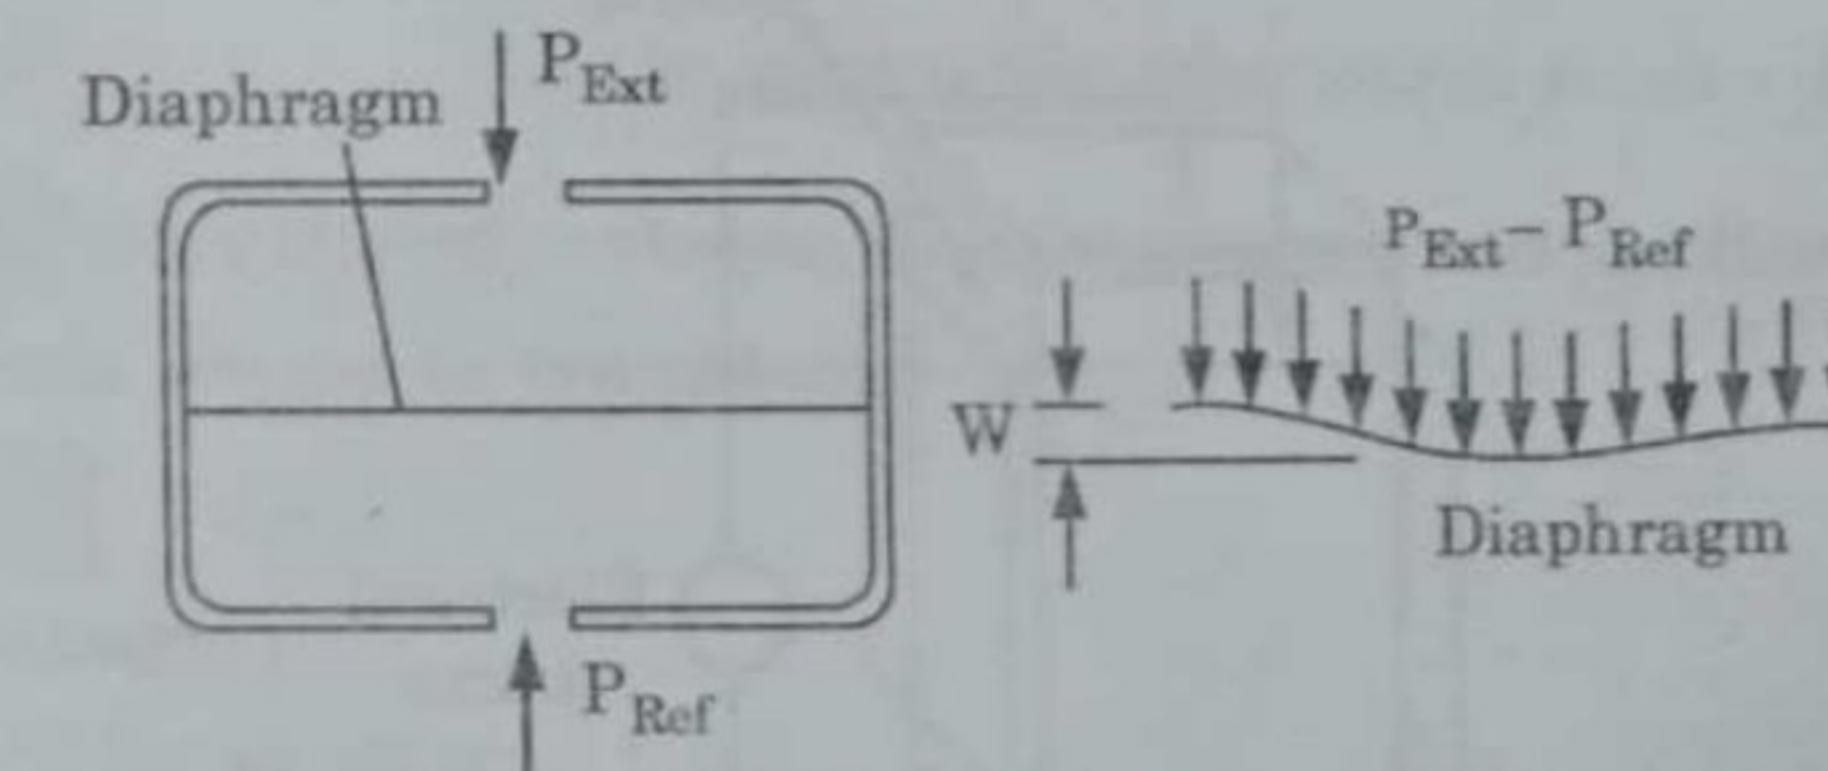

Fig. 1.24.1. Typical diaphragm pressure gauge.
2. A typical diaphragm pressure gauge contains a capsule divided by a diaphragm, as shown in Fig. 1.24.1.